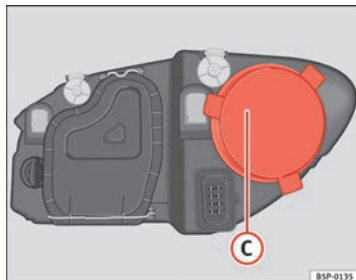

Fig. 181 Main beam headlights
- Remove the cover ⇒ Fig. 181 C by pulling on this.